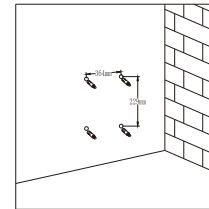

Figure 2
- 2' Drill four $\phi 8\text{mm}$ holes on the wall according to the holes on the back of left and right mounting plate. Distance between holes is shown in Figure 2, and the height of the product determined by the user according to the actual installation.